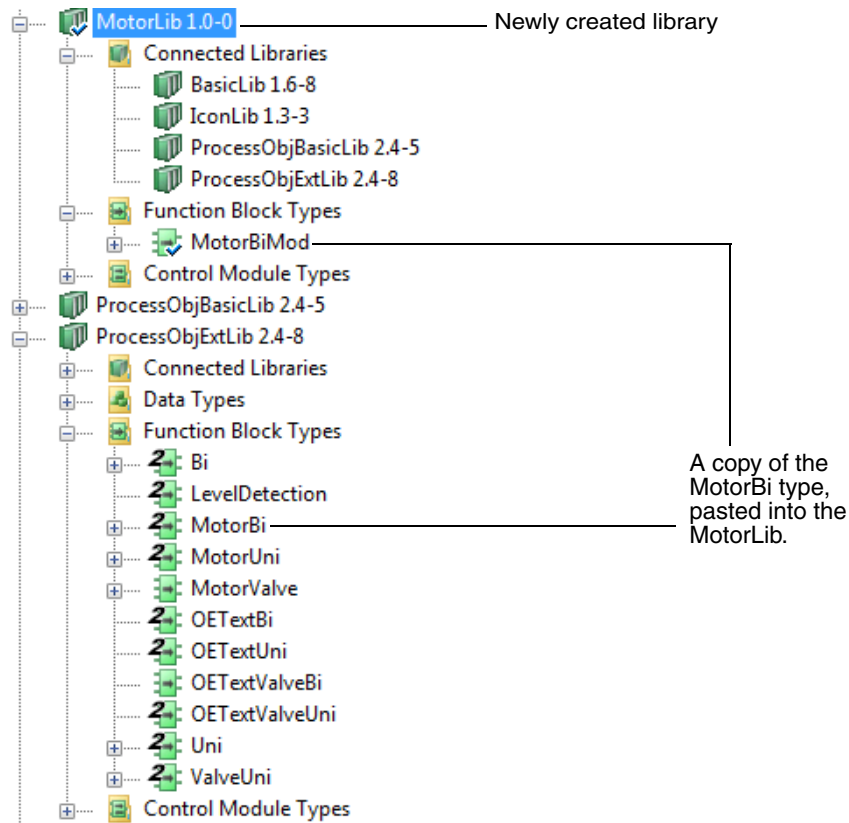

Figure 136. Copying of object types to a new library, MotorLib
12. Select the control module type that is to be replaced, under the process object type, in your own created library (MotorLib), in this example, FaceplateMotorBiMod under MotorBiMod. See Figure 136.